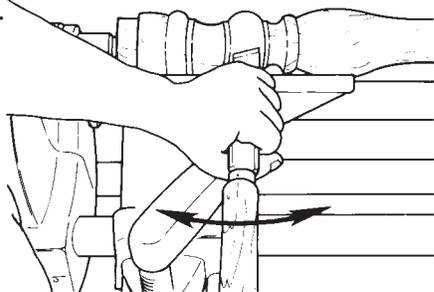

Figure D-46
- a. Cut the beads first. Feed the edge of a skew chisel slowly into the stock, then move the handle of the skew from side to side as needed to shape the beads. See Figure D-46.